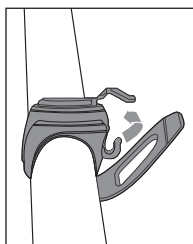

FIGURE 2.2.2
3. Place the bracket on your handlebar with the hook facing up, and pull the strap around the post until you can attach it to the hook (Figure 2.2.2).
2. Place the bracket on your seatpost with the hook on the left (non-drive) side of the bike, and pull the strap around the post until you can attach it to the hook (Figure 2.2.2, page 9).